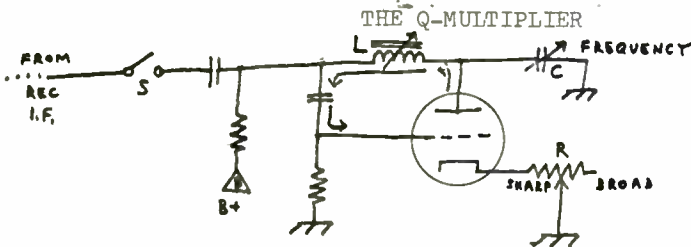
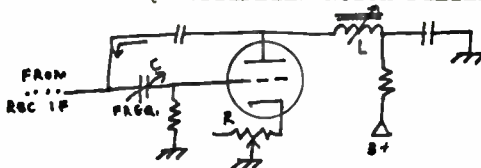

Figure 5
Figure 12
In Figure 5 the resonant circuit consists of the coil (L) and the combined effect of all the capacitors in the circuit (this includes the interelectrode capacitance in the vacuum tube). The variable capacitor (C) permits shifting the frequency several kHz on either side of a center frequency - the IF of the receiver. C is a front-panel control, generally marked "frequency"; L can also be varied, but is left alone except during receiver alignment. The potentiometer marked "R" is also a front-panel control, usually labeled "selectivity (sharp-broad)". A DP switch (S) is always present in some form for the purpose of turning the Q-Multiplier on or off.
The circuit in Figure 12 resembles the one in Figure 5, but this time the resonant circuit is series rather than parallel. Where the normal Q-Multiplier takes everything else but a sharp peak from the receiver, this one does just the opposite - stealing the peak and leaving the rest. Potentiometer "R" now becomes a "notch depth" control, which is adjusted to give the strongest possible null on a signal - usually a superlocal - then is left alone. The job of capacitor "C" is to move the null around the passband, placing it over any interfering carrier. When the null is not needed this "notch frequency" control is turned to its far side, "storing" the notch on the side of the bandpass until it is needed again.